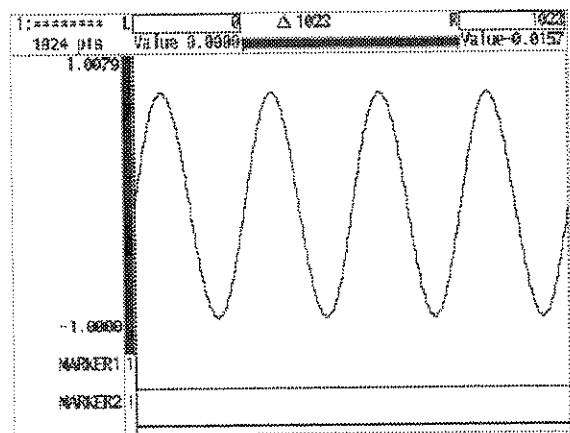

Figure 4A-44: Waveform Example before Calculation
- **Step 1:** Create the sine wave to be subjected to **Absolute** operation. Figure 4A-44 shows the sine wave before calculations are performed.